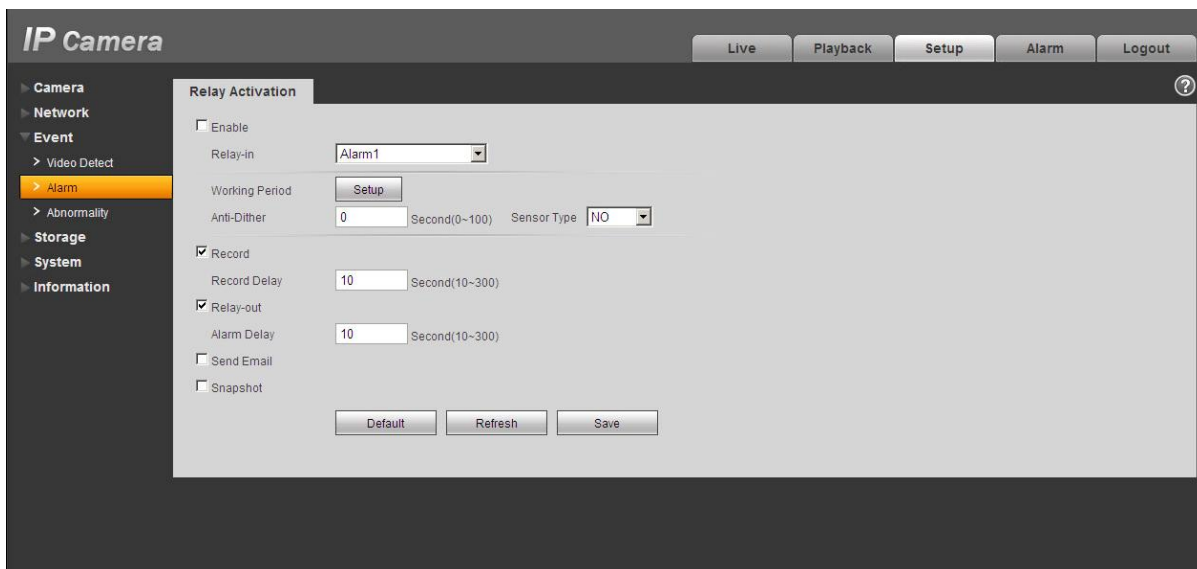

Figure 2-4 Alarm
The alarm interface is shown as in Figure 2-4.
- Step 3. Open the Web, go to the Figure 2-4. Here you can set the alarm input setup and alarm output setup. Here the alarm input is the alarm input on the rear panel (as IN port). Then you can select the corresponding type (NO/NC) according to the high/low level type when an alarm occurs.